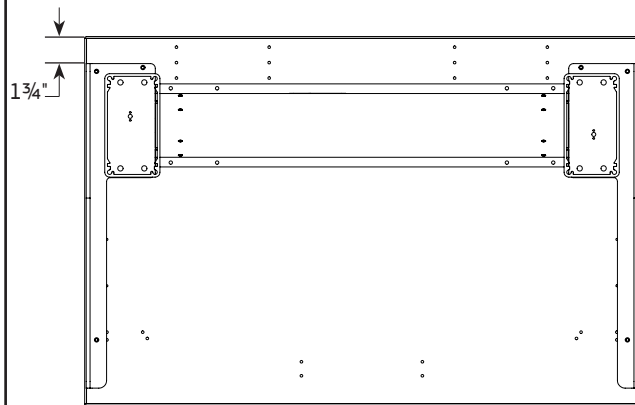
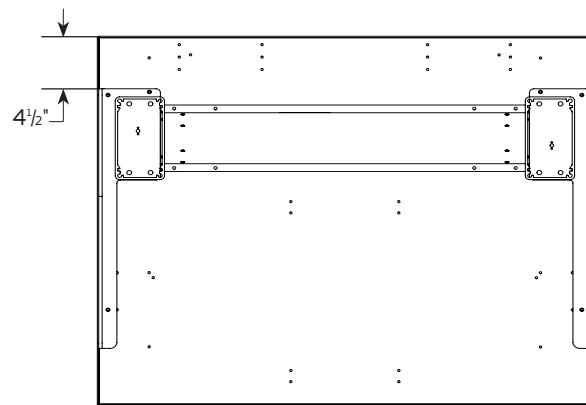

Figure 5: Table Base, 24-26" D Work Surface
Figure 6: Table Base, 27-42" D Work Surface
- 2c. The back edge of the Table Base should be 1¾" (Figure 5) or 4½" (Figure 6) from the back edge of work surface. Properly align the Table Base support brackets, left and right, over the predrilled holes of the work surface.
4. Position control box in desired location and fasten with (3) #10-12x¾" pan head screws. Note: Surfaces do not have predrilled holes for the control box.
- 2c. Le bord arrière de la base de la table doit être à 1 3/4" (Figure 5) ou 4 1/2" (Figure 6) du bord arrière de la surface de travail. Alignez correctement les supports du socle de la table, à gauche et à droite, sur les trous pré percés de la surface de travail.